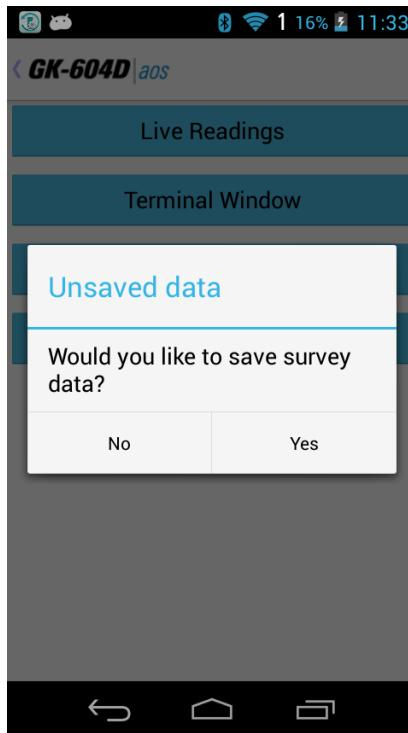
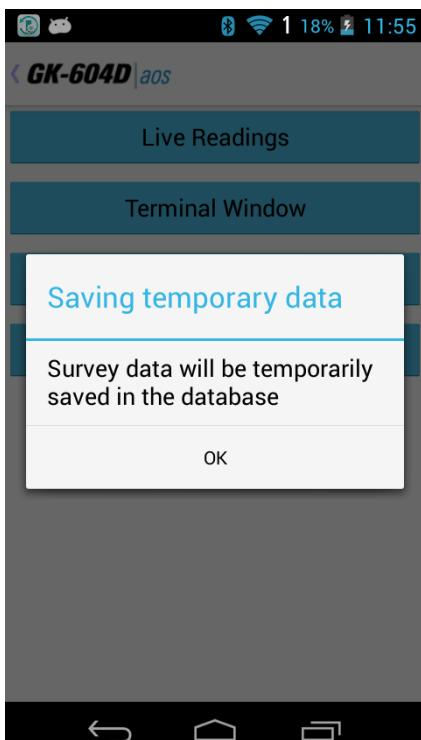
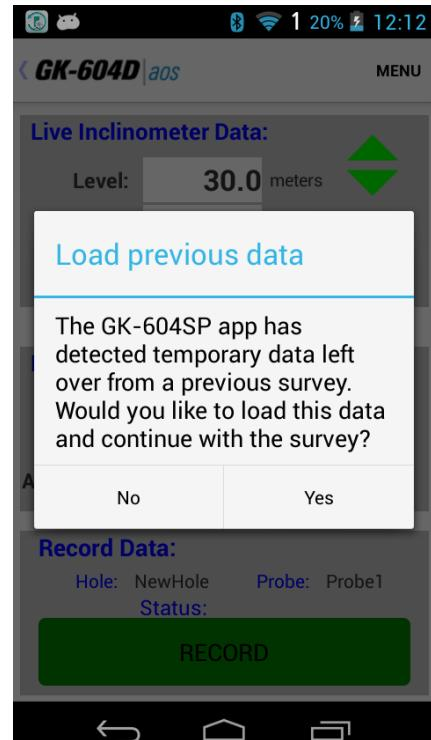

Figure 63 - Unsaved Data Prompt
Figure 64 - Saving Temporary Data
Figure 65 - Load Previous Data Prompt
- 10) When done taking readings, tap **GK-604D | aos** to dismiss the Live Readings screen. The application will detect if readings have been recorded and if so, an opportunity to save the readings will be presented to the user (Figure 63)
- If “No” is selected from the Unsaved Data Prompt (Figure 63), the readings will be saved to a temporary database table and can be restored the next time “Live Readings” is entered (see Figure 64 and Figure 65).
- If “Yes” is selected from the Unsaved Data Prompt (see Figure 63), then the readings will be saved to the database and the survey will be saved with the name given to it in the Survey Metadata Settings (see Section 3.2.1.1, Survey Metadata topic). If no name was entered in the Survey Metadata Settings, the survey will be saved using a three-digit numerical suffix combined with the “Hole” name. For example, if there were four previous surveys saved for a hole with the name of “HL123_Dam75”, the new survey would be named: “HL123_Dam75_005”.